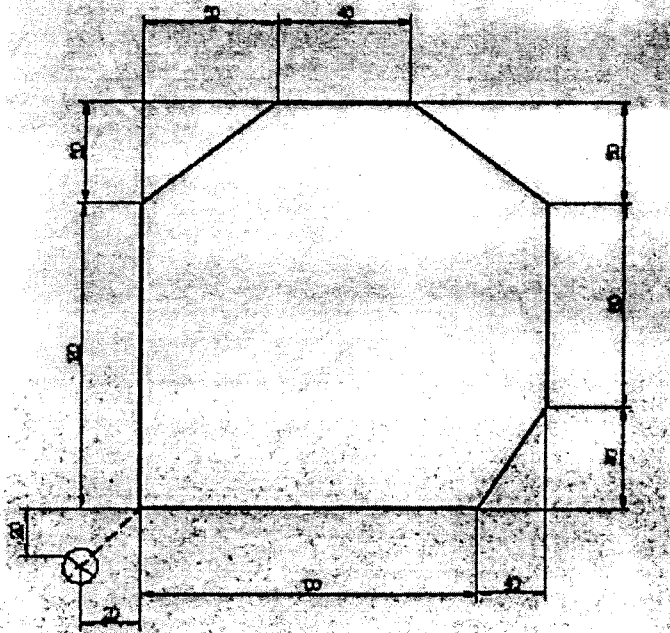

Figure 3
11. To prepare a CNC part program to mill the component as per the drawing figure 3 & 4.